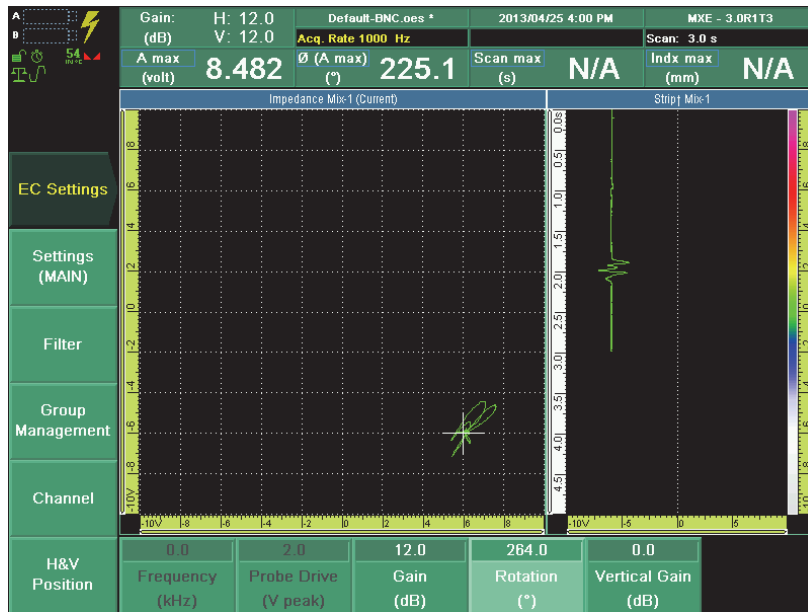

Figure 9-43 The signal resulting from mixing the frequency 1 and frequency 2 is weak
12. Scan the good fastener, and then the defective fastener on the calibration sample. The signal of both fasteners in the views should be weak (see Figure 9-43 on page 189).